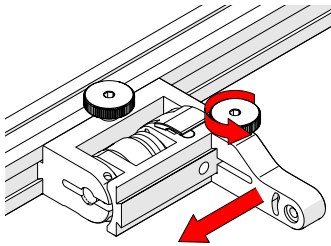

Fig. 216 - Position swing arm
5. Loosen the swing arm knob and slide the swing arm to the opposite end of the probe holder bracket (Fig. 216) or preferred position. Tighten swing arm knob.